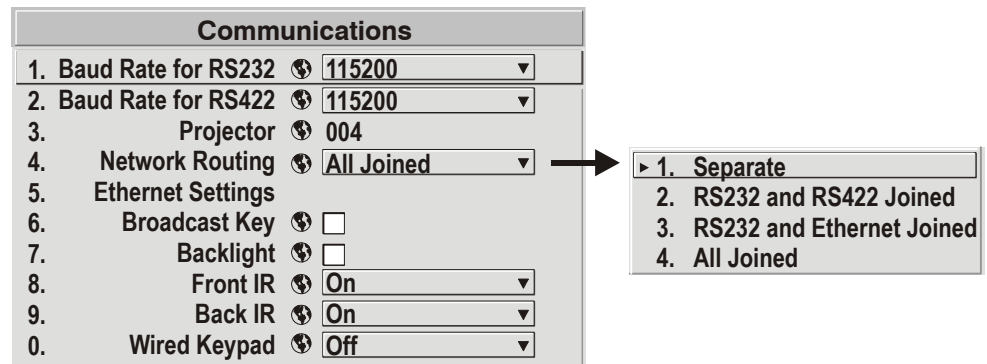

Figure 2.35. Keeping Communications Separate (default)
- Separating Networks** ▶ By default, communications originating from one type of serial controller—RS-232 vs. RS-422 vs. Ethernet—stays on the corresponding network path. A “Separate” setting indicates this separation for “Network Routing” in the *Communications* menu. If you are using an RS-422 controller, for example, it will communicate only with the projector to which it is connected unless you change this setting to either “RS-232 and RS-422 Joined” or “All Joined” (**Figure 2.35**).